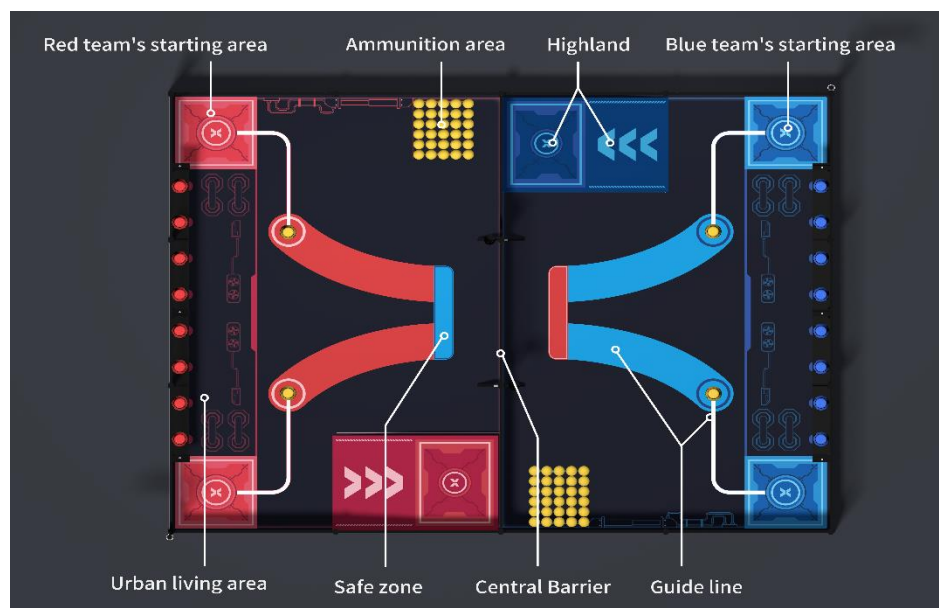

Fig 3.3 Diagram of Arena
- **Guide line:** As shown in Fig 3.3, it is composed of white lines and the red (blue) color ribbons, whose widths are 25mm and 260mm respectively.